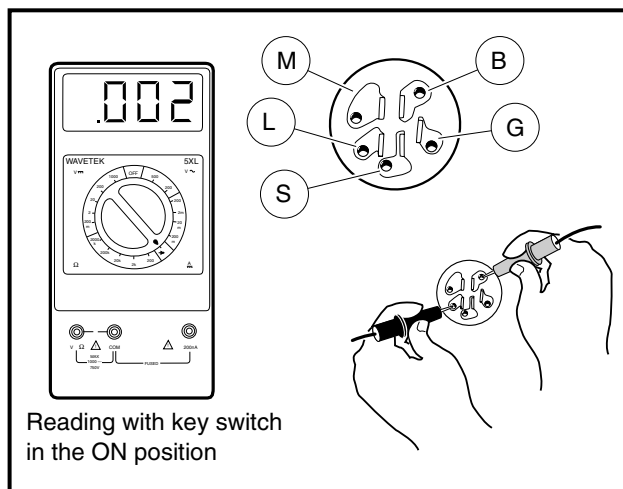
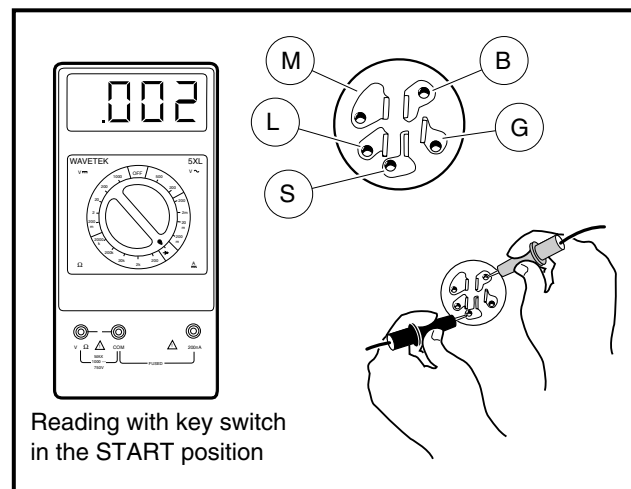

Figure 11-28 Key Switch Test – Accessory Terminal
Figure 11-29 Key Switch Test – Starter Circuit
4. Insert the key and turn the key to ON. Place the red (+) probe of the multimeter on the (B) terminal and the black (–) probe on the (L) terminal of the key switch. The reading should be continuity. If the reading is incorrect, replace the key switch (**Figure 11-28, Page 11-27**). **See Key Switch Removal, Section 12, Page 12-16.**
5. With the key still in the ON position, place the red (+) probe of the multimeter on the (B) terminal and the black (–) probe on the (S) terminal of the key switch. The reading should show no continuity. If the reading is incorrect, replace the key switch. **See Key Switch Removal, Section 12, Page 12-16.** If the reading is correct, leave the probes connected and proceed to the next step.
6. Insert the key and hold the key in the START position. The reading should be continuity. If the reading is incorrect, replace the key switch (**Figure 11-29, Page 11-27**). With the red (+) probe of the multimeter on the (B) terminal and the black (–) probe on the (L) terminal of the key switch, the reading should be continuity. If either reading is incorrect, replace the key switch. **See Key Switch Removal, Section 12, Page 12-16.**
4. Insert the key and turn the switch to the ON position. With the multimeter set to 200  $\Omega$  (ohms), place the red (+) probe of the multimeter on the (B) terminal and the black (-) probe on the (L) terminal of the key switch (**Figure 11-28, Page 11-27**). The reading should be continuity. If the reading is incorrect, replace the key switch. See **Key Switch Removal, Section 12, Page 12-16**.